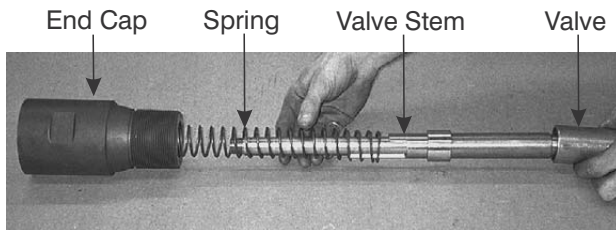

Figure 8-18. Remove Valve Components from End Cap
4. Slide the assembled Valve Stem (5), Valve Spring (6) and Valve (1) from the End Cap (8) as shown in Figure 8-18.